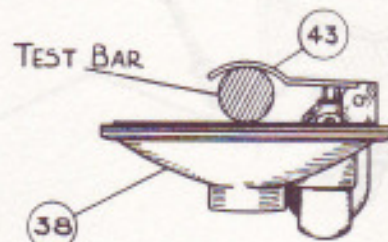

FIG. 10. TEST BAR IN POSITION.
The petrol level in the float chamber can be varied by bending the forked lever (43). The forked lever should be set so that when it is holding the needle against its seating a 7/16" diameter bar can just be passed between the lever and the float chamber cover as shown in Fig.10.